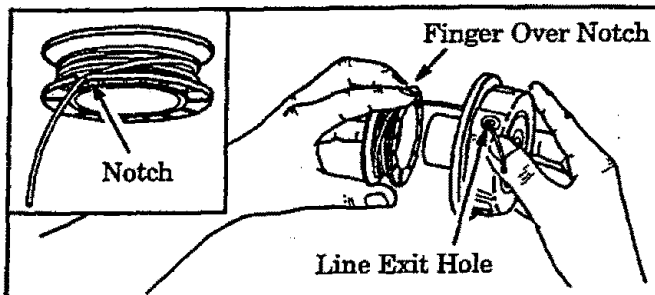

Figure 15
- e. Catch the line in the notch in the spool. Figure 15 (inset). Leave about 4 inches of line hanging from the spool.
- f. Place your index finger over the line and notch as shown in Figure 15 . Insert the end of the Line in the Line Exit Hole. Figure 15 .
- g. Align the line and notch with the Line Exit Hole. Figure 15. Place Spool in Hub. Make sure the Trimmer Line is not caught between the rim of the Spool and the Hub.